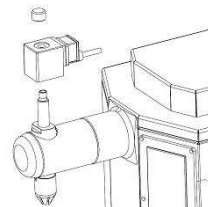

fig. 15
- (existing provided) Remove hand nut from magnetic valve, lift-up the magnet-coil and let it hang by its cable. (fig. 15)
- (existing provided) Place magnet coil and hand nut on the upper closing unit. (fig. 15, page 16) Tighten hand nut and slide-on garnishing nozzle.